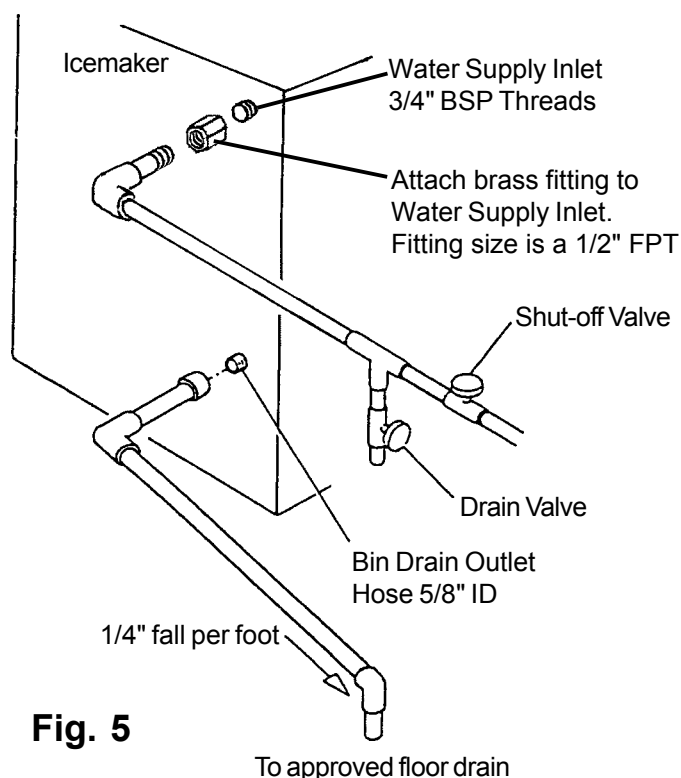

Fig. 5
- * Attach the brass fitting included in the accessory bag as shown in Fig. 5. The brass fitting size is 1/2" FPT and must be connected only to a potable water supply.